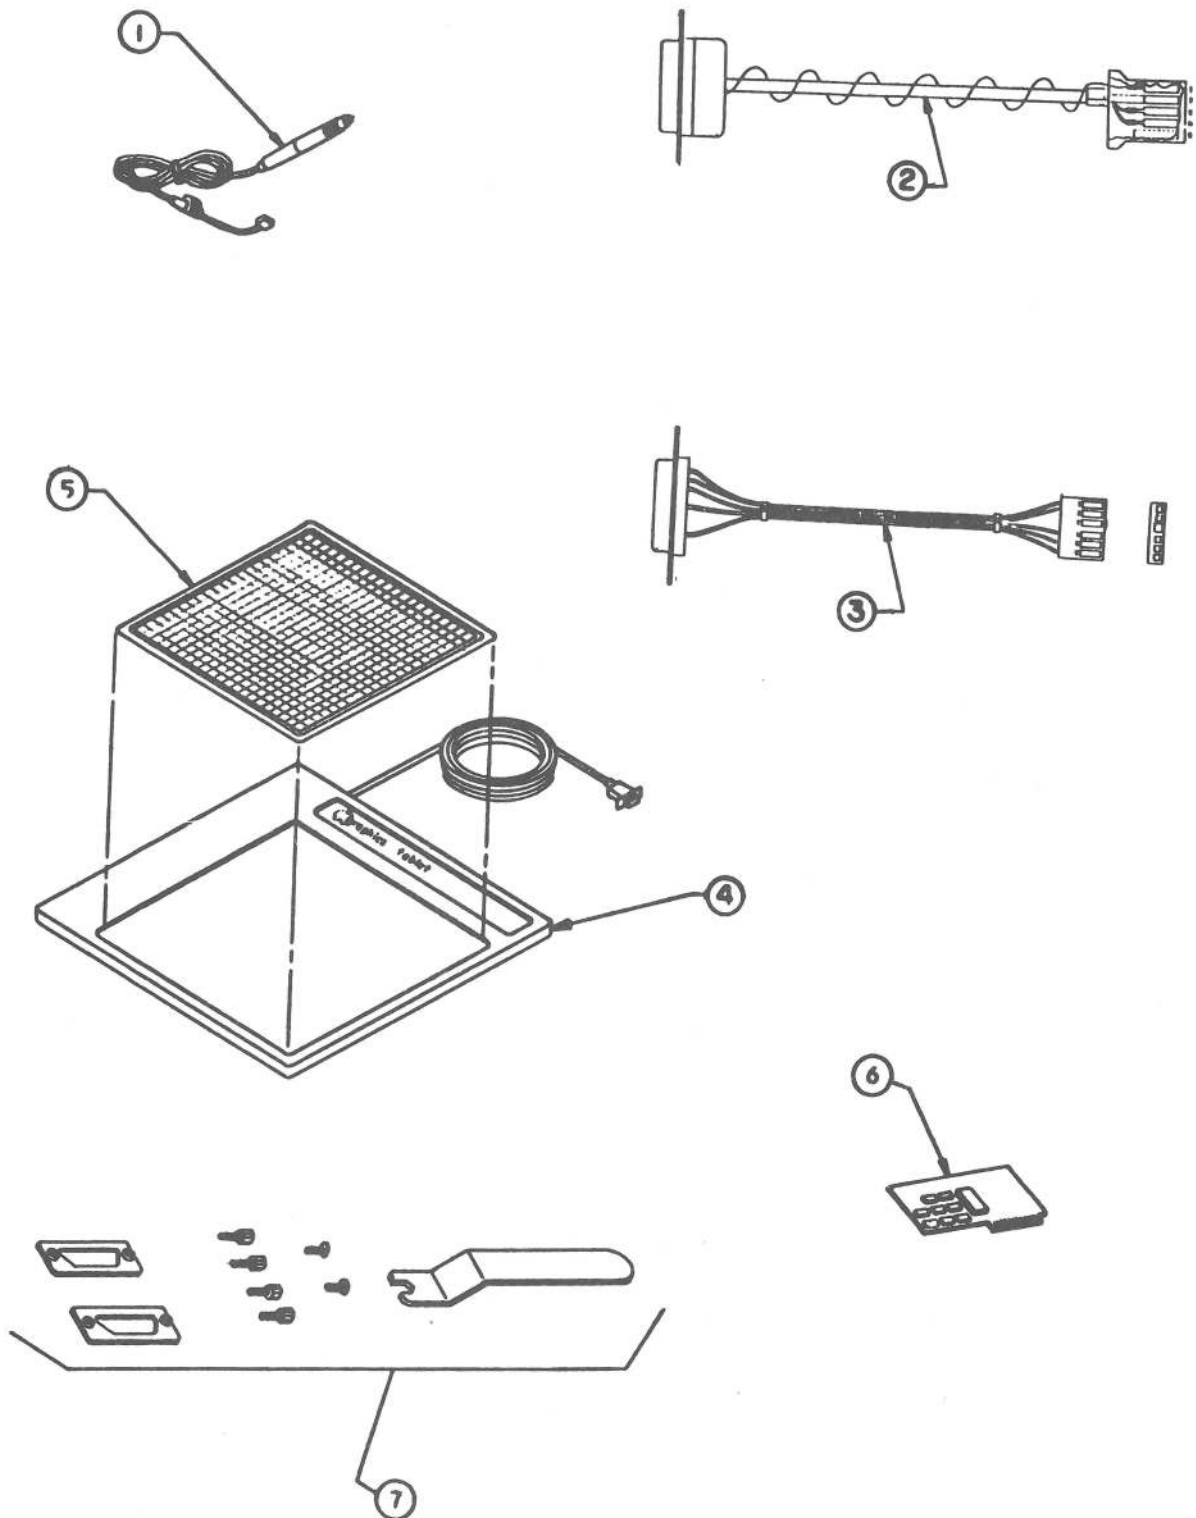

FIGURE 1
5.1 Graphics Tablet, RFI-Non RFI Assembly (Figure 1)
□ GRAPHICS TABLET, RFI-NON RFI ASSEMBLY (Figure 1)